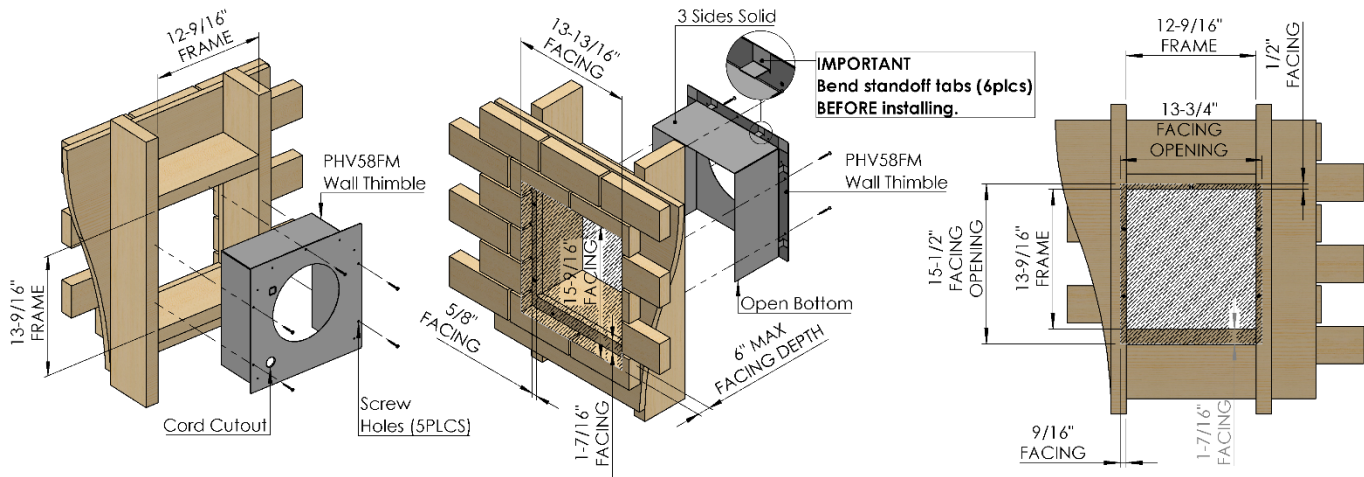

Figure 7 - Wall Thimble positioning and framing dimensions.
The Wall Thimble is installed on the frame side. A **Frame Opening of 12-9/16" x 13-9/16"** [31.9cm x 34.4cm] is required for the Thimble to properly mount. To install, bend the six [6] standoff tabs on the Wall Thimble as shown in Figure 7, orient the assembly so that the bottom is open, insert into the wall frame, and secure with 5 screws. Make note of the cord cut-out for electrical pass-through is located towards the bottom.
**IMPORTANT: THE FACE OPENING IS OFFSET 1/2" [1.3cm] ABOVE THE FRAME OPENING. PLEASE REVIEW THE SHADED AREA IN Figure 7.**